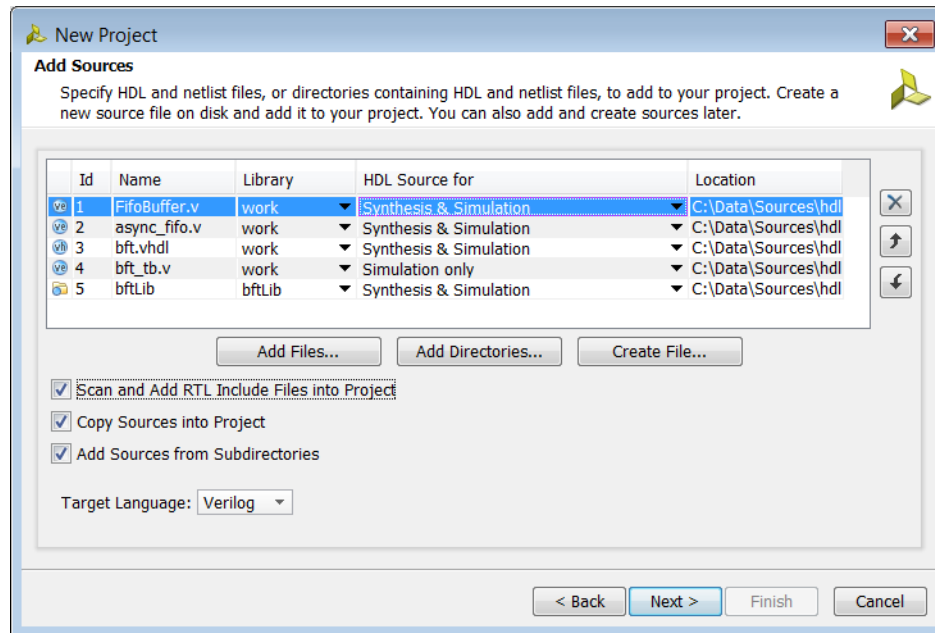

Figure 2-3: New Project Wizard—Add Sources Page
3. In the Add Sources page (Figure 2-3), set the following options, and click **Next**: